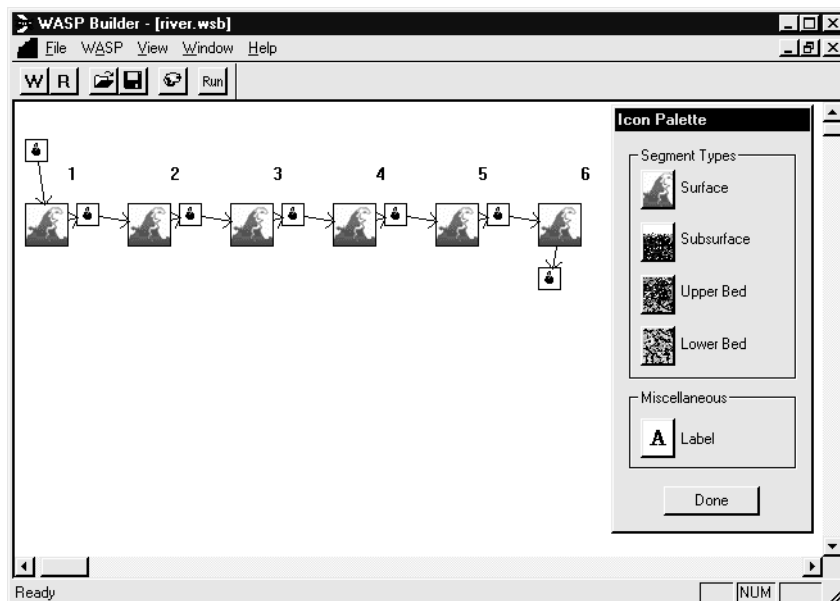

Figure 6: Example of River Network File
3. Select the **Open** button and a simple river model will be displayed (*Figure 6*).